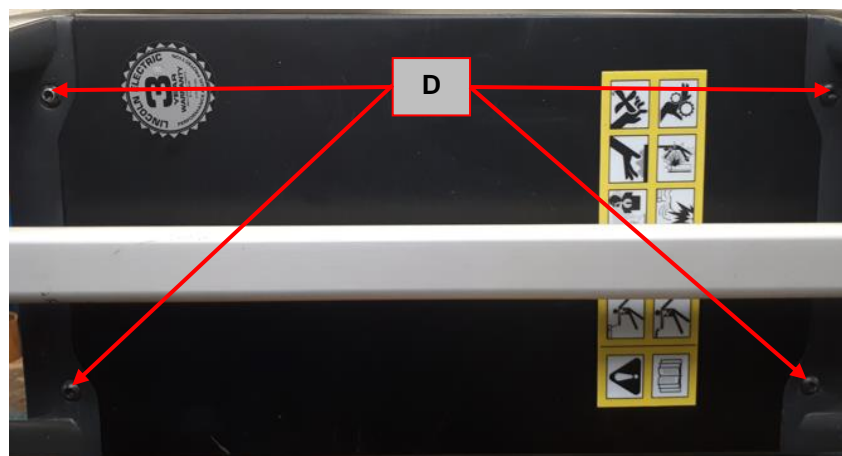

Figure 18
7. Using the Torx 25 wrench remove the two screws (**D**). See **Figure 18**